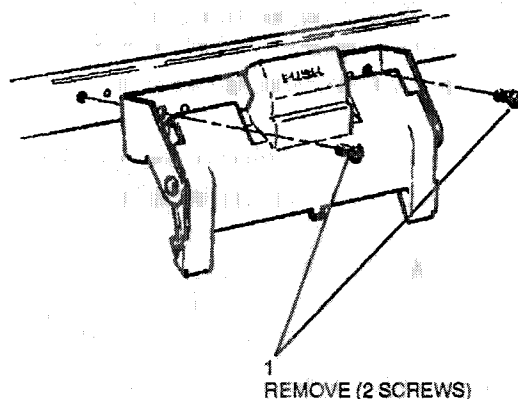

Figure 1. Opening latch assembly removal
2. (figure 1) Remove the opening latch assembly.